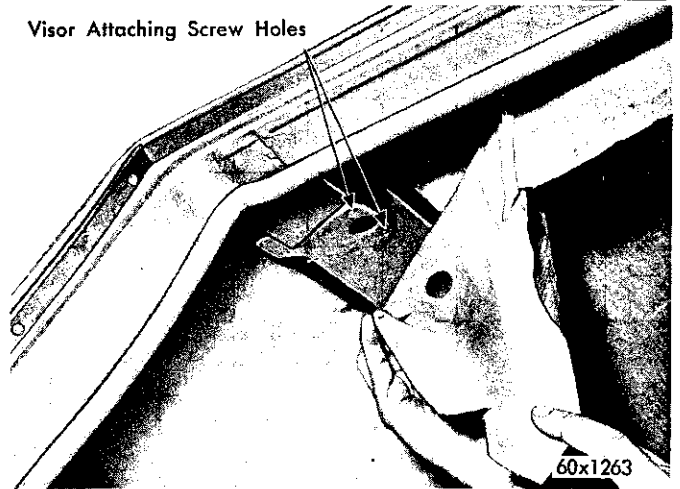

Fig. 40—Visor Attaching Points
(7) Cut holes in the headlining for the visor (Fig. 40) retaining screws and pivot.
(8) Install the visors before tucking in the corners of the headlining at the top of the windshield posts to prevent tearing the headlining when tightening the screws.
(9) Install the garnish mouldings.